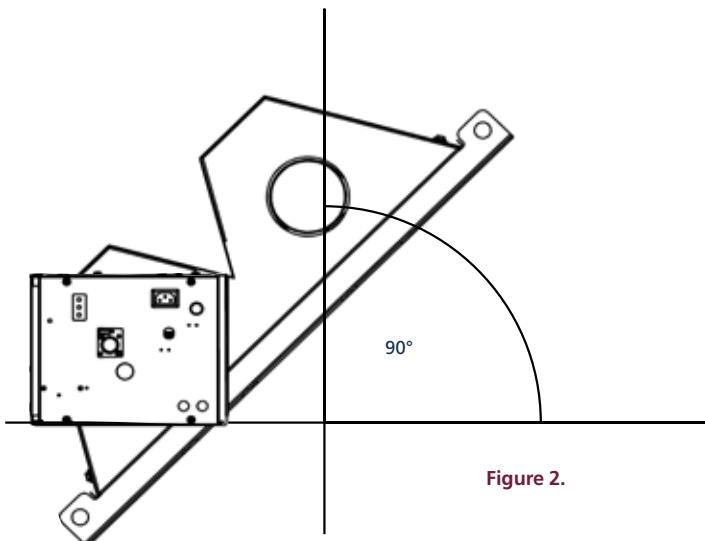

Figure 2.
This is to ensure the gas valve coils are not installed beyond 90° from the upright position. See Figure 2.
**Note:** When Angle mounting a U tube heater, the burner MUST be located on the bottom (lowest) tube (see Figure 2) Models 15-25 U-Tube heaters cannot be installed angle mounted